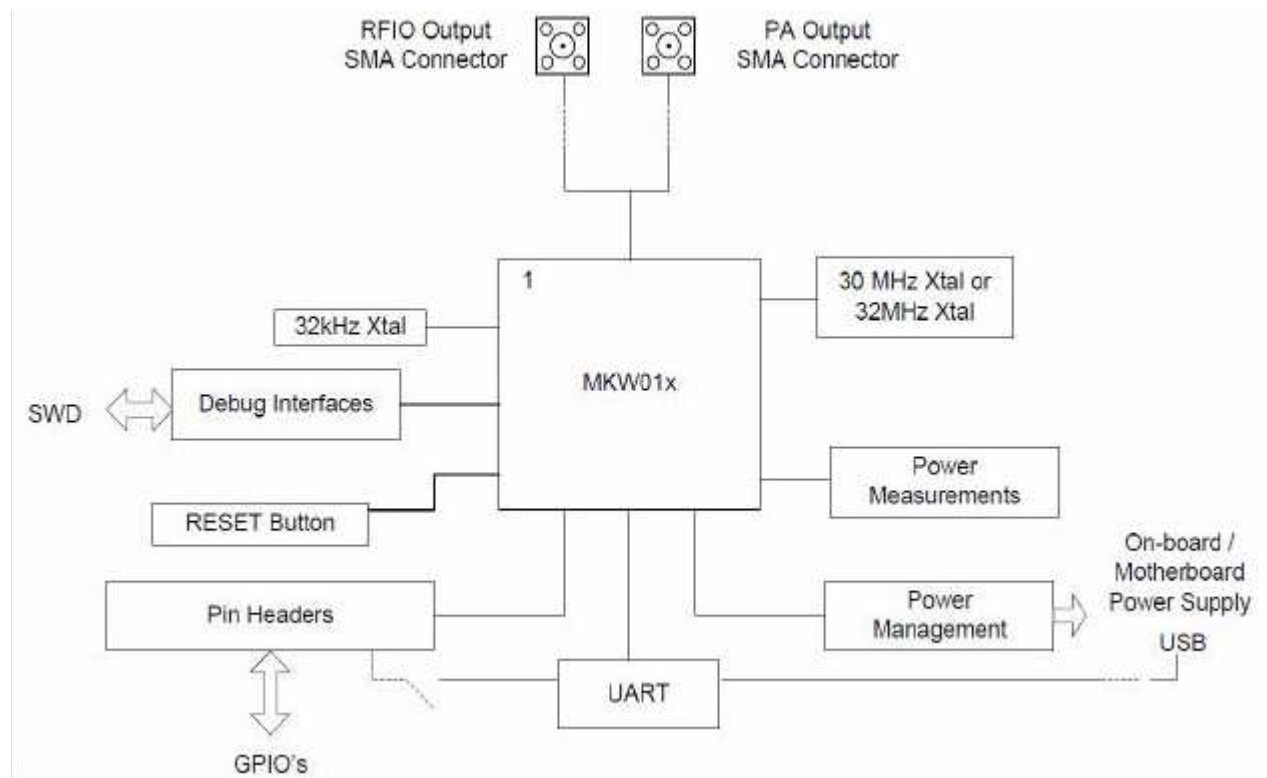

Figure 3-3. KW01-MRB Block Diagram
- Figure 3-3 for the functional blocks